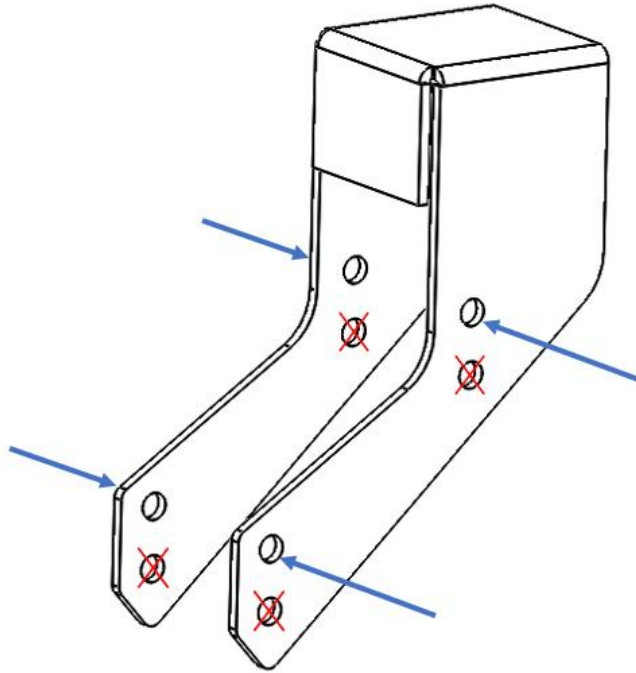

Figure 1. Bolt the top holes of the front bracket to the nerf bar assembly.
1. Assemble the front nerf bar brackets to the main nerf bar assembly using the top set of holes on each bracket, as shown in Figure 1. Use the 3/8-16 x 1 1/4" bolts provided in the hardware kit.